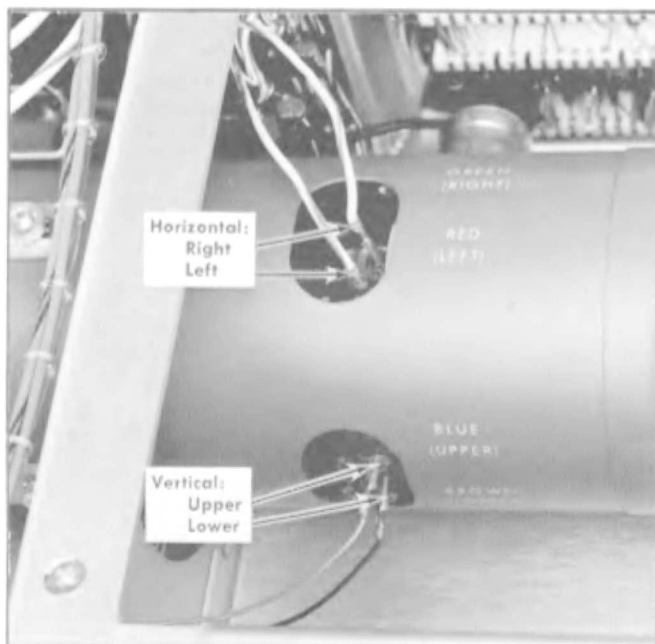

Fig. 4-9. CRT deflection plate pins for checking deflection factor and electrical center of the CRT.
1. Connect the DC voltmeter between the CRT vertical deflection plate pins (see Fig. 4-9) with the minus lead on the upper deflection plate pin.
2. Connect the DC voltmeter between the CRT horizontal deflection plate pins (see Fig. 4-9), with the minus lead on the left deflection plate pin.